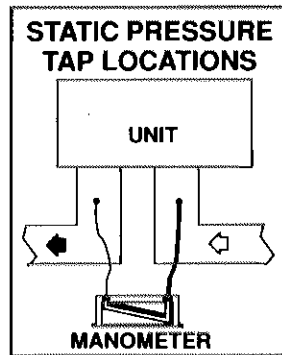

FIGURE 17
- a- Locate taps as shown in figure 17.